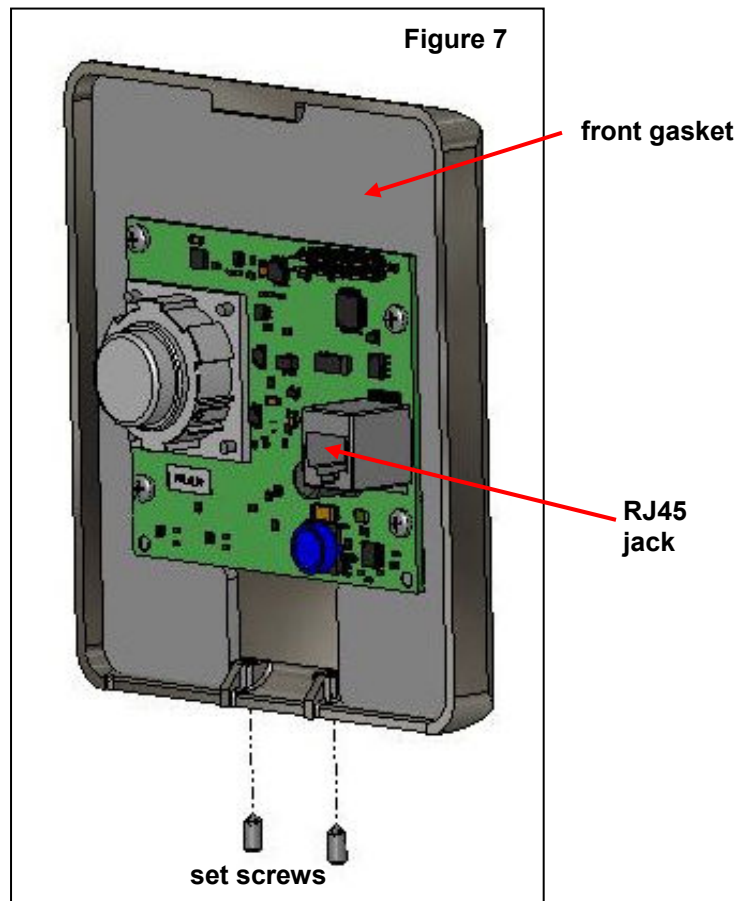

Figure 7
- Pull the Cat 5 cable from the enclosure through the mounting bracket and terminate the cable with an RJ45 plug and insert the plug into the RJ45 jack on the rear of the Patio Unit (see **Figure 7**). Follow the T568A standards described in **Figure 3**.